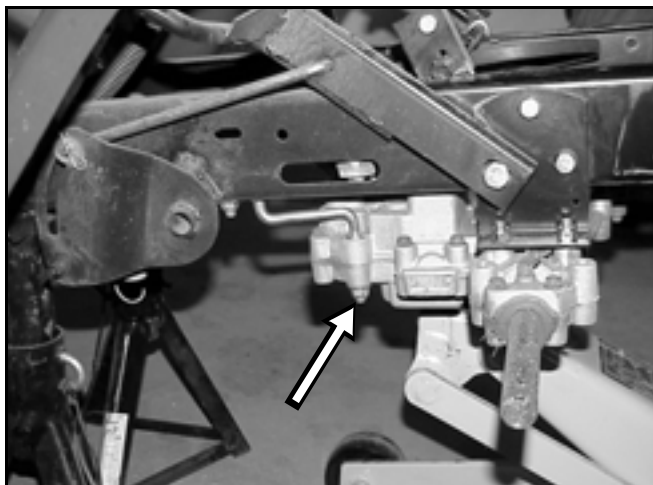

Figure 9
8. Remove the nut and washer holding the left side torque strap leaving the torque strap bolted to the frame (Figure 9).